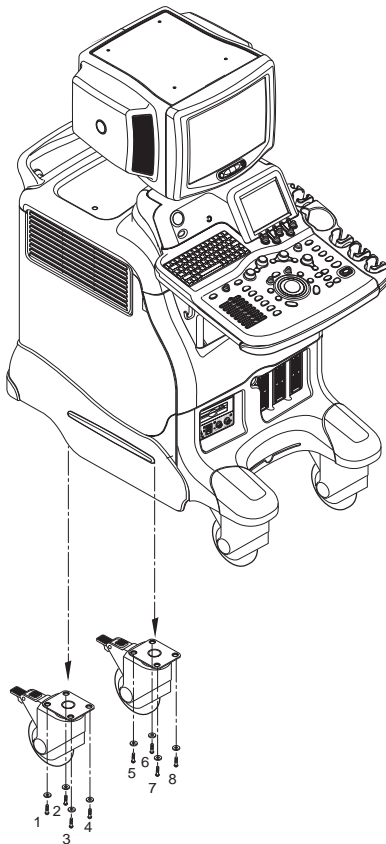

Figure 8-85 Removing the Rear Caster
- 2.) Remove the Rear Caster. Refer to Figure 8-85.